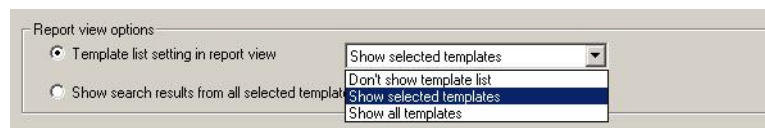

Figure 25. Showing other templates
6. Select how the Snapshot report viewer should visualize and manage usage of other templates as shown in Figure 25: